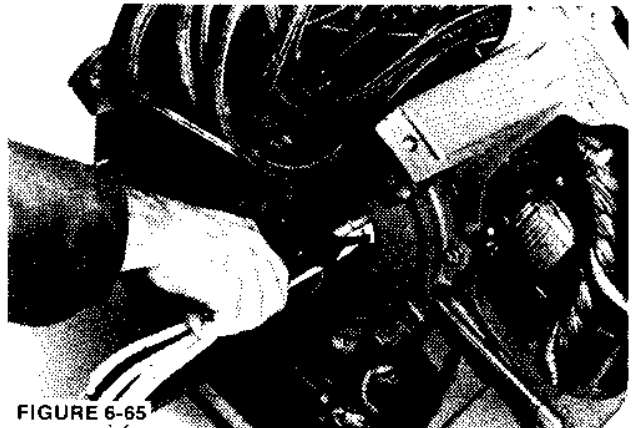

FIGURE 6-65
1. Install inboard snap ring (430 frame generators) and loading spring on shaft. (Figure 6-65.)